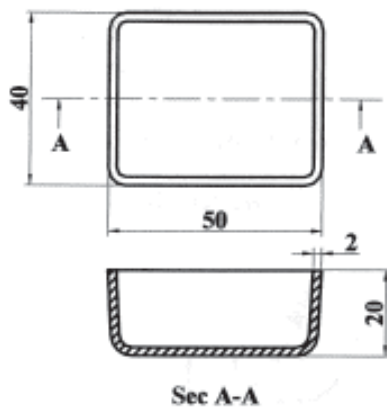

Fig: 6
11. Design a single-impession injection mould for the component shown in fig. 6. 18
b) What rectangular edge gate and 50 mm long runner dimensions are required for moulding PVC box shown in fig. 6 ? 8